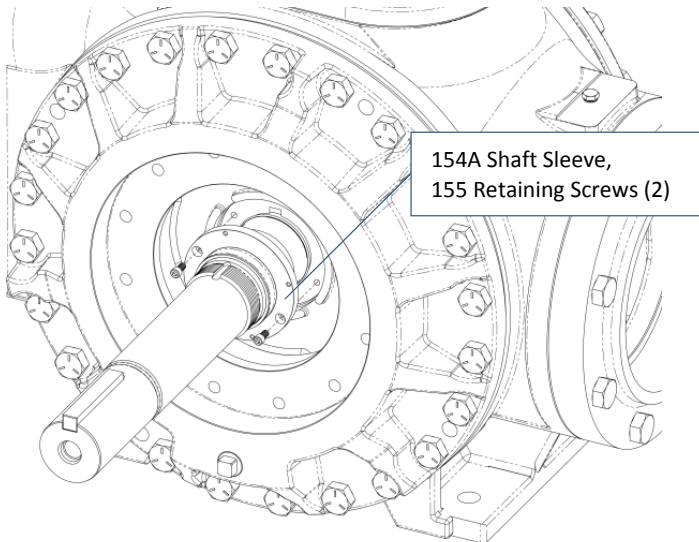

Figure 7 – Shaft sleeve removal and installation
10. Inspect shaft sleeve (154A). If replacement is necessary, remove capscrews (155), set aside. If necessary, use seal mounting holes as jackscrew holes to assist disassembly. See Figure 7 Discard stationary O-ring (154B).
- b. Place small amount of Loctite # 220 onto capscrews (155), thread fully into rotor holes through sleeve. Torque to 200 inlb (22.6 Nm).
12. Remove the head capscrews (21). If necessary, place head capcrews in the two tapped holes near the outer rim of the head and tighten until the head separates from the casing. Use a hoist to remove the head from the casing, being careful not to damage the shaft.
13. Remove the head O-ring (72) and disc (71). If needed, threaded holes are provided in the disc to break it free.